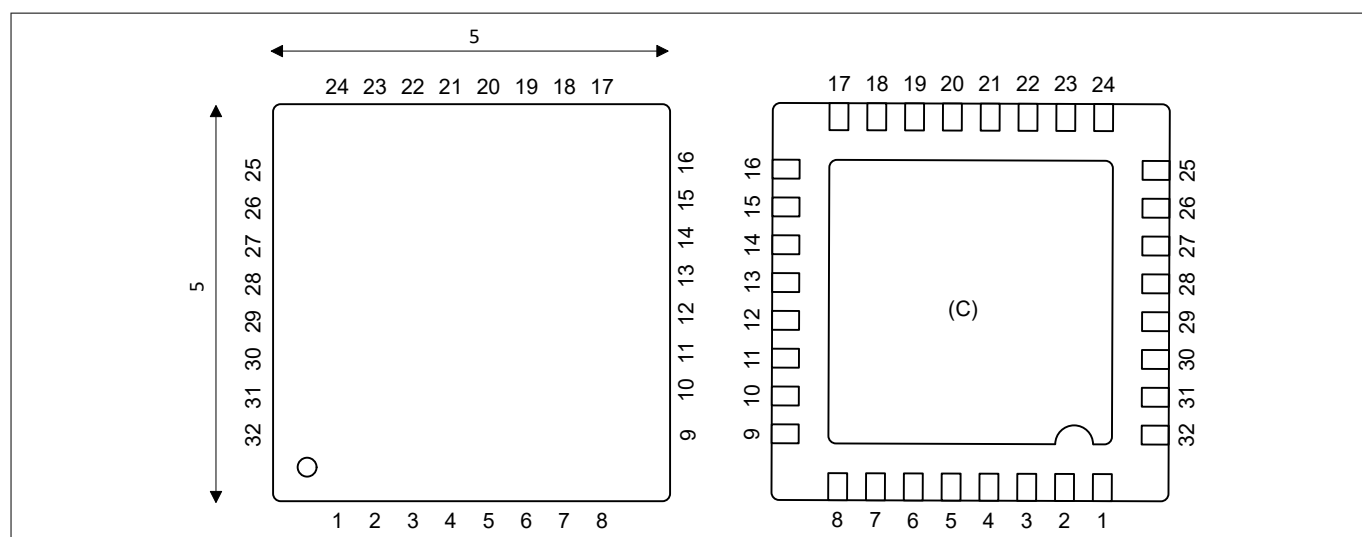

Figure 24 PG-VQFN-32-13, -20 package layout
Note: The exposed die pad referenced as (C) in Figure 24 must be connected to the common ground reference (GND) for heat distribution.